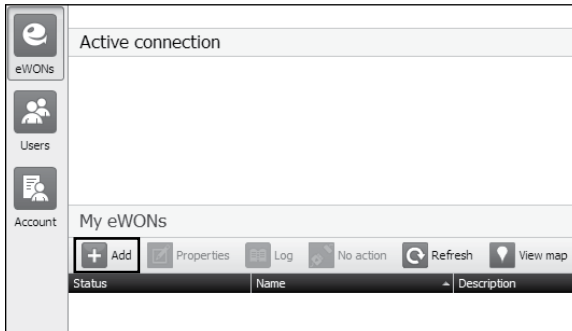

FIGURE 6-1: Adding an eWON in eCatcher.
3. **Log in to eCatcher and add your eWON by clicking the Add button (see Figure 6-1).**